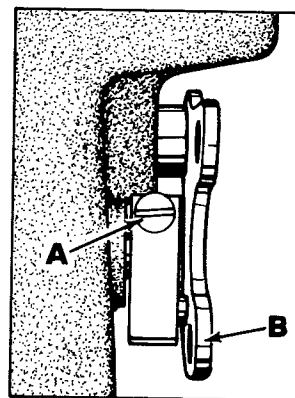
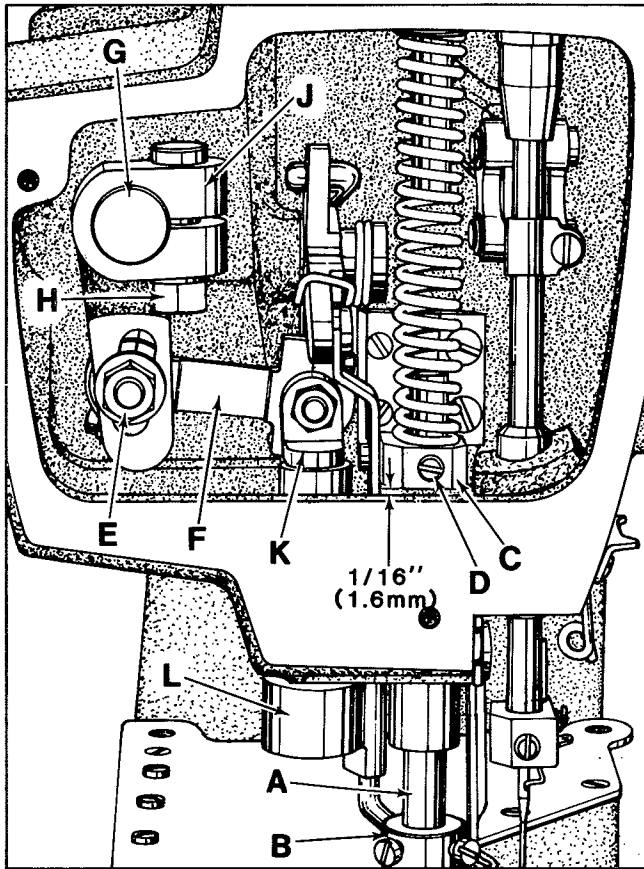
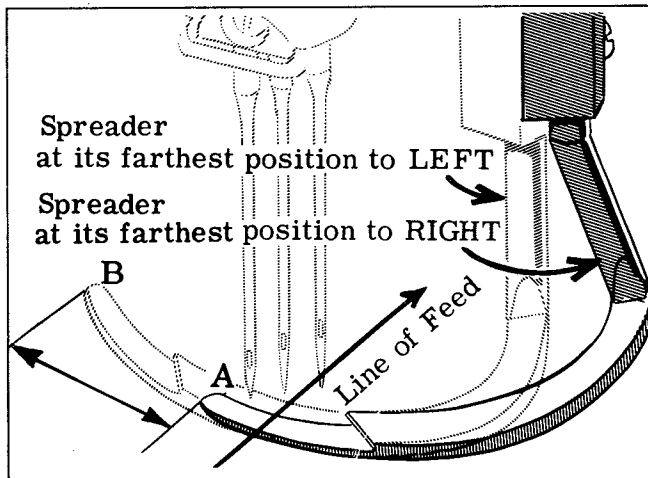
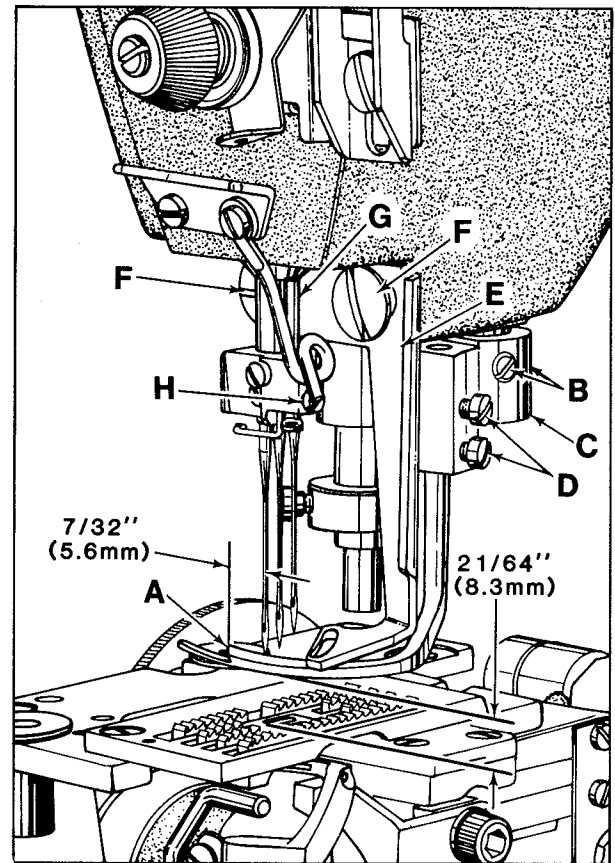

Fig. 13
Fig. 14
Fig. 15
Fig. 16
If adjustment is needed, loosen tension release lever screw (A, Fig. 13), located at the back of the machine and move tension disc separator as required. Retighten screw. After adjustment there should be no binding at any point.
Height of presser bar (A, Fig. 14) is correct when presser foot can be removed by loosening stop collar (B) and depressing foot lifter lever (B, Fig. 13). There should be approximately 1/16 inch (1.6mm) clearance between lower surface of presser bar connection and guide (C, Fig. 14) and bottom surface of head opening in bed casting when foot lifter lever is released and presser foot lying flat on throat plate with feed dog below throat plate.
Adjustment can be made by turning handwheel to position needle bar at bottom of stroke. Loosen screw (D, Fig. 14) and while holding presser foot down on throat plate, position presser bar connection and guide as required to attain specified clearance and retighten screw.
Set presser bar stop collar (B, Fig. 14) so presser foot does not contact spreader when raised.
Set the arc travel of the spreader point (A) to point (B) figure 15 as listed below, by loosening nut (E, Fig. 14) and moving the connecting link (F) up or down to the desired amount of arc travel.
With needle bar at top of its stroke and spreader at extreme left end of its travel, point of thread carrying notch (A, Fig. 16) should extend $7/32$ inch (5.6mm) to the left of the centerline of left needle. Adjustment can be made by loosening screws (B), reposition spreader as required being sure to push down on spreader holder carrier (K, Fig. 14) and up on spreader holder (L) while tightening screws (B, Fig. 16) because spreader holder (C) acts as lower thrust collar for spreader holder carrier.
Bottom surface of spreader should be set $21/64$ inch (8.3mm) from top of throat plate (See Fig. 16). At extreme right end of travel, spreader must be set to clear the shank of left needle by $1/64$ to $1/32$ inch (.4 to .8mm). Adjustments can be made by loosening screws (D), reposition spreader as required and retighten screws.
Stationary thread guide (E, Fig. 16) should be set to clear right needle by approximately $3/32$ inch (2.4mm). Attaching screws (F) will allow repositioning as required. Moveable thread eyelet (G) should be positioned with its eye directly over the front end of slot in stationary thread guide (E). With needle bar at bottom of stroke, lower surface of thread eyelet (G) and top of thread guide (E) should have the clearance equivalent to the shank of a Type 121 needle, approximately .080 inch (2.0mm). Screw (H) will allow repositioning as required.